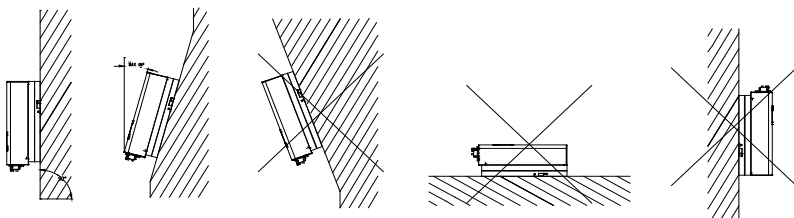

Figure 4.1 Mounting Method
Please mount the inverter correctly as shown in Figure 4.1 below.
(2)Please install the equipment under the guidance of Figure4.1. Vertical installation on floor level is recommended. Mount vertically or tilted backwards by maximum. 15° . Never install the inverter tilted forwards, sideways, horizontally or upside down.
(3) Install the inverter at eye level for convenience when checking the LCD display and possible maintenance activities.